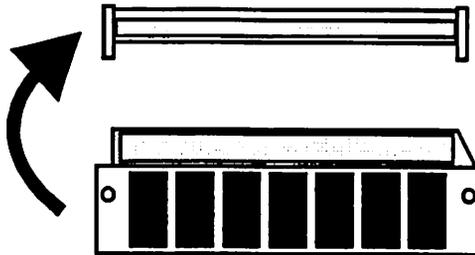

Figure 2-6
2. Insert the BIOS into its proper socket as in Figure 2-6. Be cognizant of the pins as they are extremely fragile. Please inspect the pins to see that they are not bent. The machine will not function properly if the pins are bent.